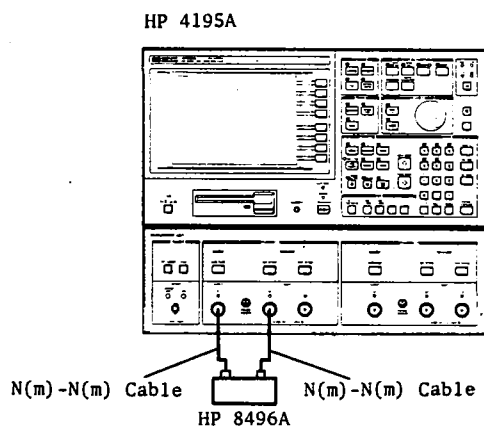

Figure 2-5. Amplitude Measurement Linearity Test Setup
- Connect the Step Attenuator to the HP 4195A as shown in Figure 2-5, and set the Step Attenuator to 0 dB.